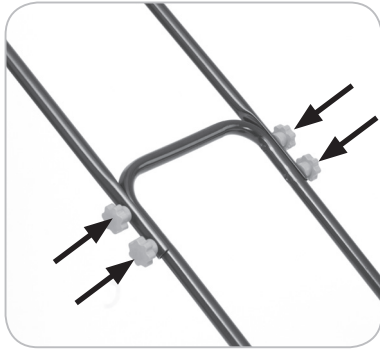

Fig. 1
- Carefully slide the Extension Handle over the main operating handle and align the four (4) holes in the Extension Handle with the four (4) captive nuts in the main handle.
- Insert the four (4) $\varnothing 10$ mm thumb screws through the Extension Handle holes and into the captive nuts. (**Fig. 1**)
- Tighten all four (4) thumb screws securely.